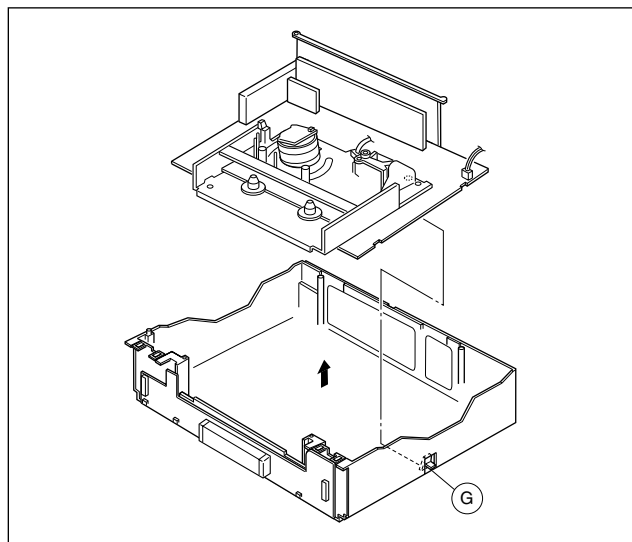

Fig. 1-4-2
- (6) Remove the hook (G) while holding the edge of the Main board assembly, and remove the Main board and Mechanism assemblies together. At this stage be careful of the power cord and prongs of the jacks on the back side. (Refer to Fig. 1-4-2.)